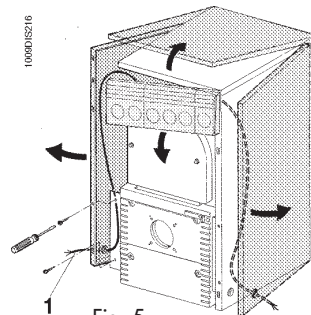

Fig. 5
N.B.: The burner cable (Pos. 1 Fig. 5) can be positioned, according to the necessity of the user, to the right or the left.